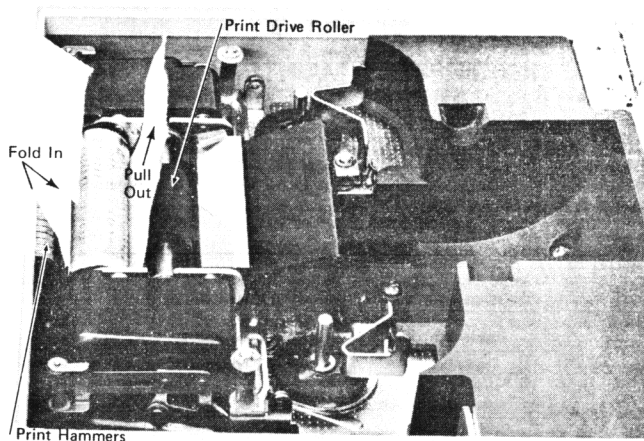

Figure 3-2. The 6" strip of paper inserted during cleaning.
5. Slide the 6" strip of printer paper (from step 1) around the print drum (see Figure 3-2).